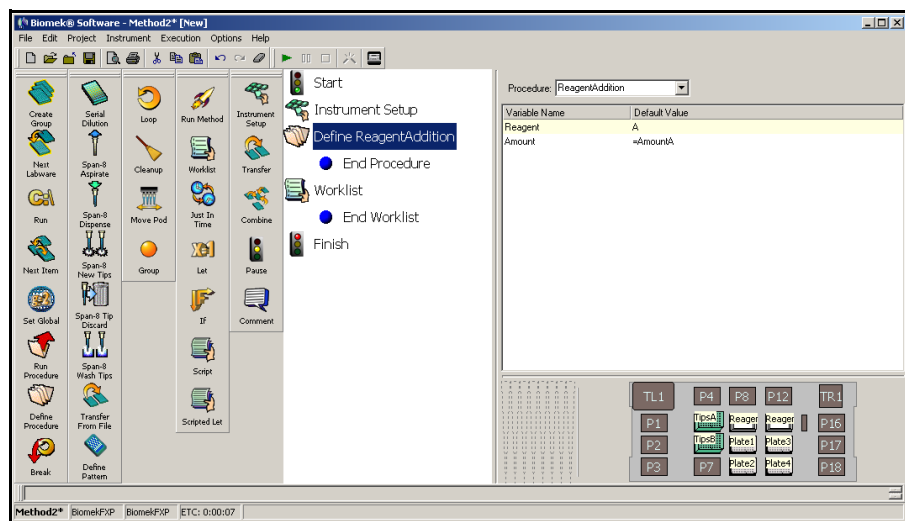

Figure 8-5. Variables entered in Define Procedure step
- Double-click the **Define Procedure** step in the Method View to expose End Procedure (Figure 8-5). The Define Procedure step now appears as Define ReagentAddition step.